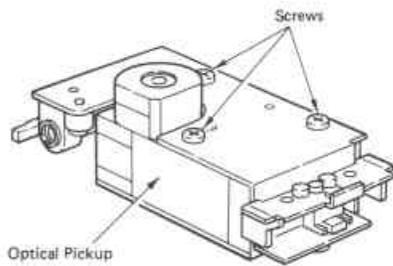

Fig. 6
- 9) Remove three screws from the pickup holder, and the optical pickup is now removed. (Fig. 6)